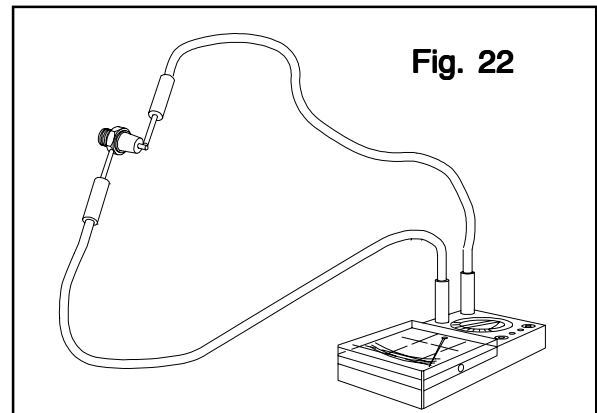

Fig. 22
-Check if there is continuity between (+) and ground when the engine is not running (Fig.22).